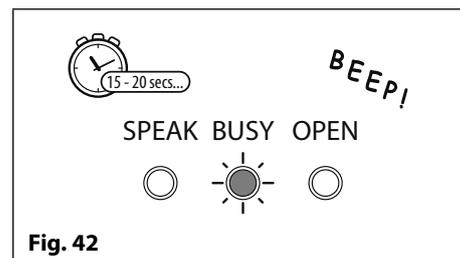

Fig. 42
6. The busy LED will continue to flash for a further 15-20 seconds while it resets the master code and then emit a single beep, as shown in **Fig.42**;